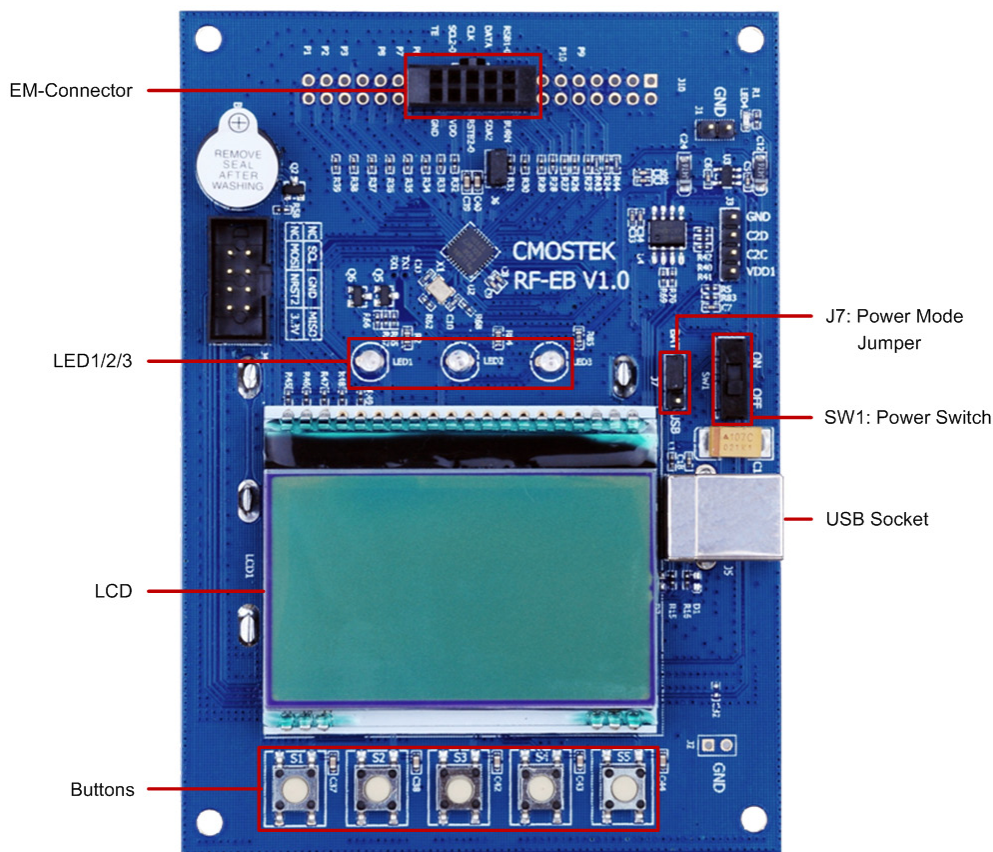

Figure 6. Top View of RF-EB
1. Turn off the RF-EB power switch (SW1, see Figure 6 in Page 10). It is always good practice to plug in or out the evaluation modules after the RF-EB is powered off.
2. Switch the Power Mode Jumper (J7, see Figure 6 in Page 10) to the USB or BAT side to select the available power supply source.
The main components are shown in Figure 6 below: